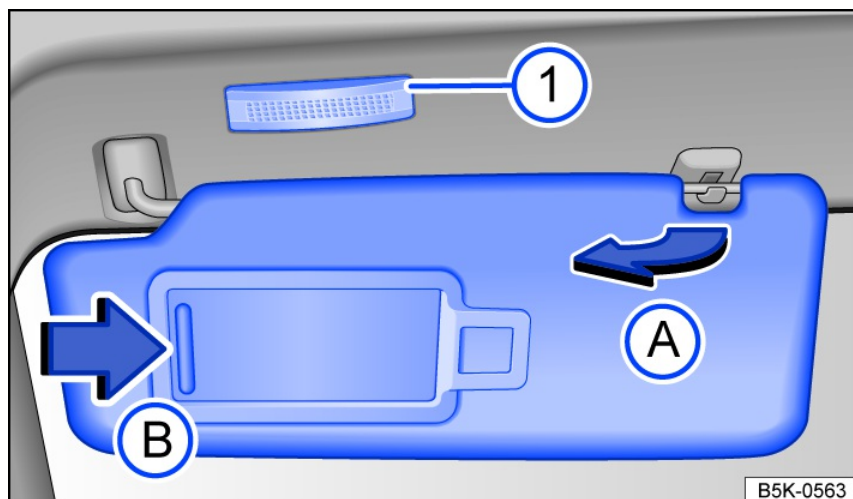

Fig. 102 In the front of the headliner: sun visor.
- Remove from the holder and tilt toward the door *fig. 102* **A**.
When the sun visor is folded down, there is a vanity mirror located behind a cover. The lights *fig. 102* **1** turn on when the cover *fig. 102* **B** slides open.